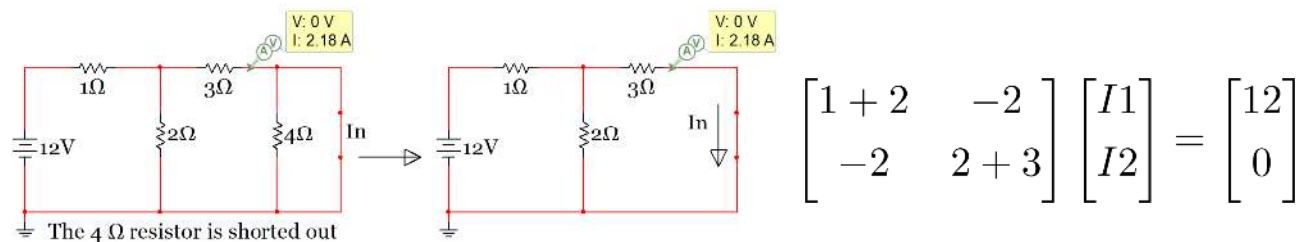

Figure 2.62: Sub-Problem 2 - I_N Calculation – Used in Method 2 to determine $R_{th} = V_{th}/I_N$
- The Mesh Matrix in Figure 2.62 can be solved to give $I2 = 2.182 \text{ A}$ and $I2 = \underline{I_N = 2.182 \text{ A}}$